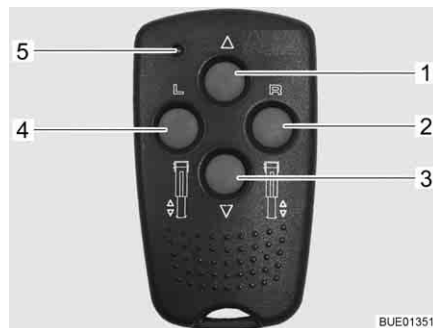

Fig. 49 Remote control for electrical steady legs
- Preselection: steady leg left (Fig. 49,4)
- Preselection: steady leg right (Fig. 49,2)
- Retract steady leg (Fig. 49,1)
- Extend steady leg (Fig. 49,3)
- Control LED (Fig. 49,5)
Each time a button is pressed, the control LED (Fig. 49,5) flashes.
- Press and hold the preselection button for the steady leg side (Fig. 49,2 or 4) for approx. 1 second.
- Within 2 seconds, press the "Extend steady leg" button (Fig. 49,3) and hold it until the support leg (Fig. 51,4) is touching the ground.
- Within 2 seconds, press the "Retract steady leg" button (Fig. 49,1) and hold it until the support leg (Fig. 51,4) is fully retracted. Once the support leg is fully retracted, a control signal sounds.